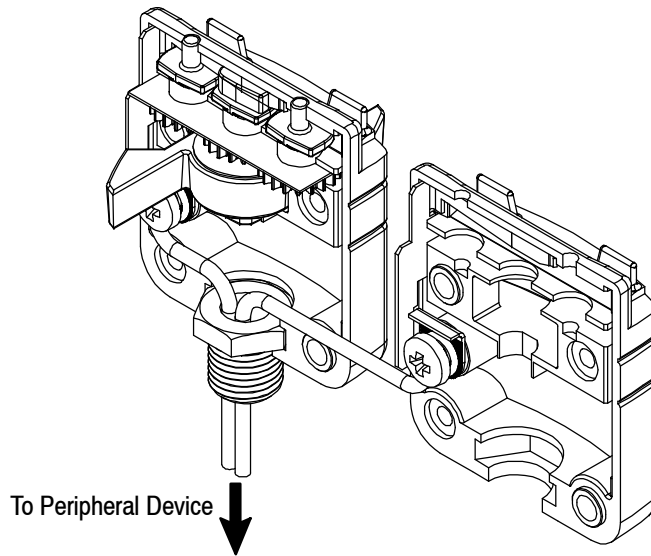

Figure 12
3. Attach one wire to each terminal on the connector half. See Figure 12.